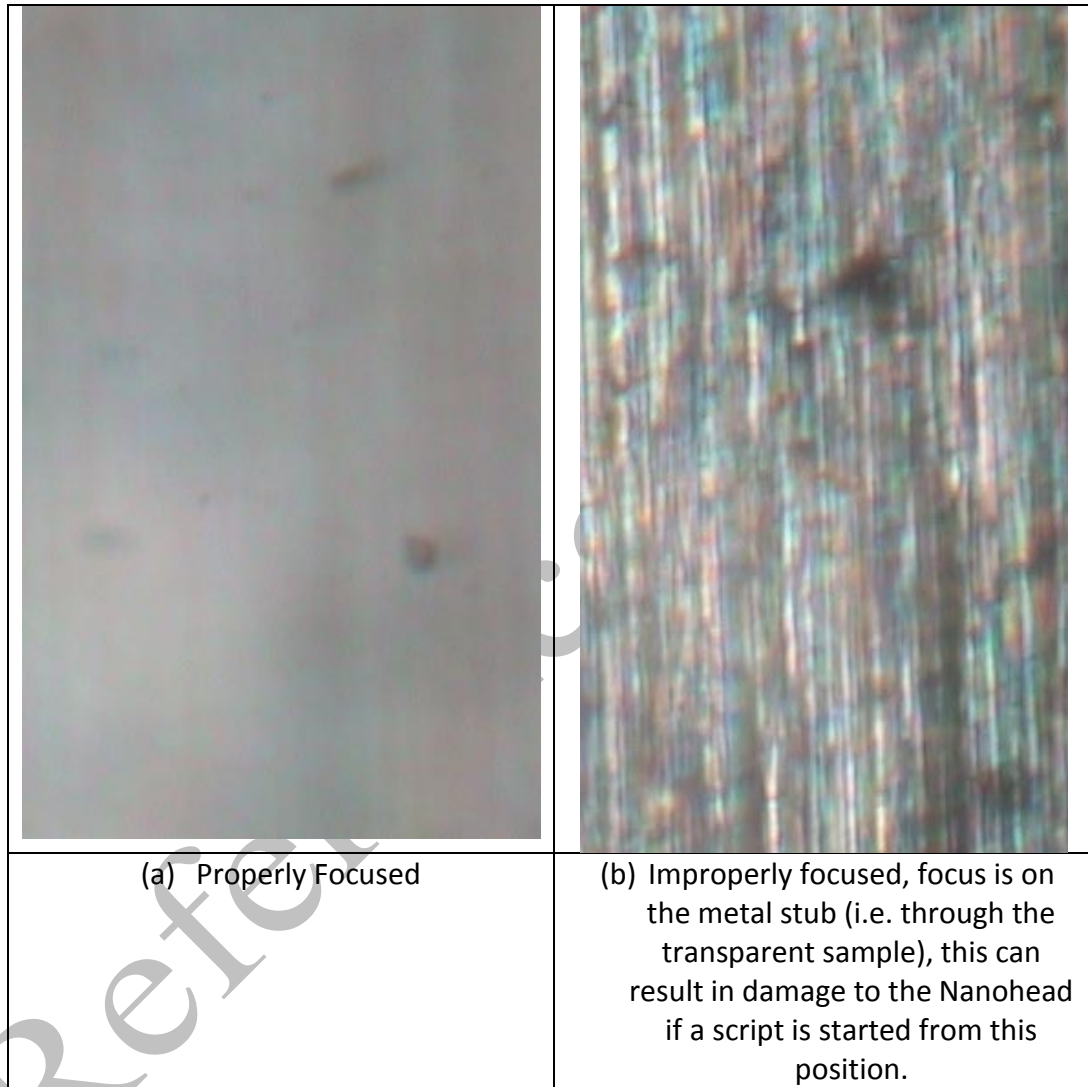

Figure 2: Properly focused specimen (a), focus through a transparent specimen (b), with the metal mounting stub in focus.
Use the optical microscope image to focus the TOP of your sample, as shown in Figure 2 (a), Figure 2 (b) shows that you can focus through a translucent material (such as the reference material Fused Silica (FS)), this is an unsafe distance as